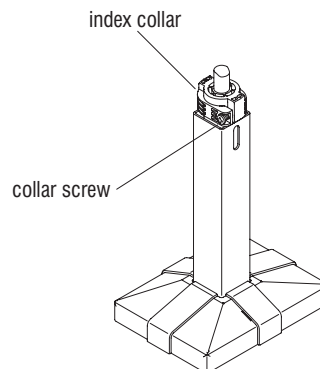

Figure 3
**Tighten the two screws on the index collar to secure the seat alignment. Torque these screws to 50 in/lbs (Figure 3).**